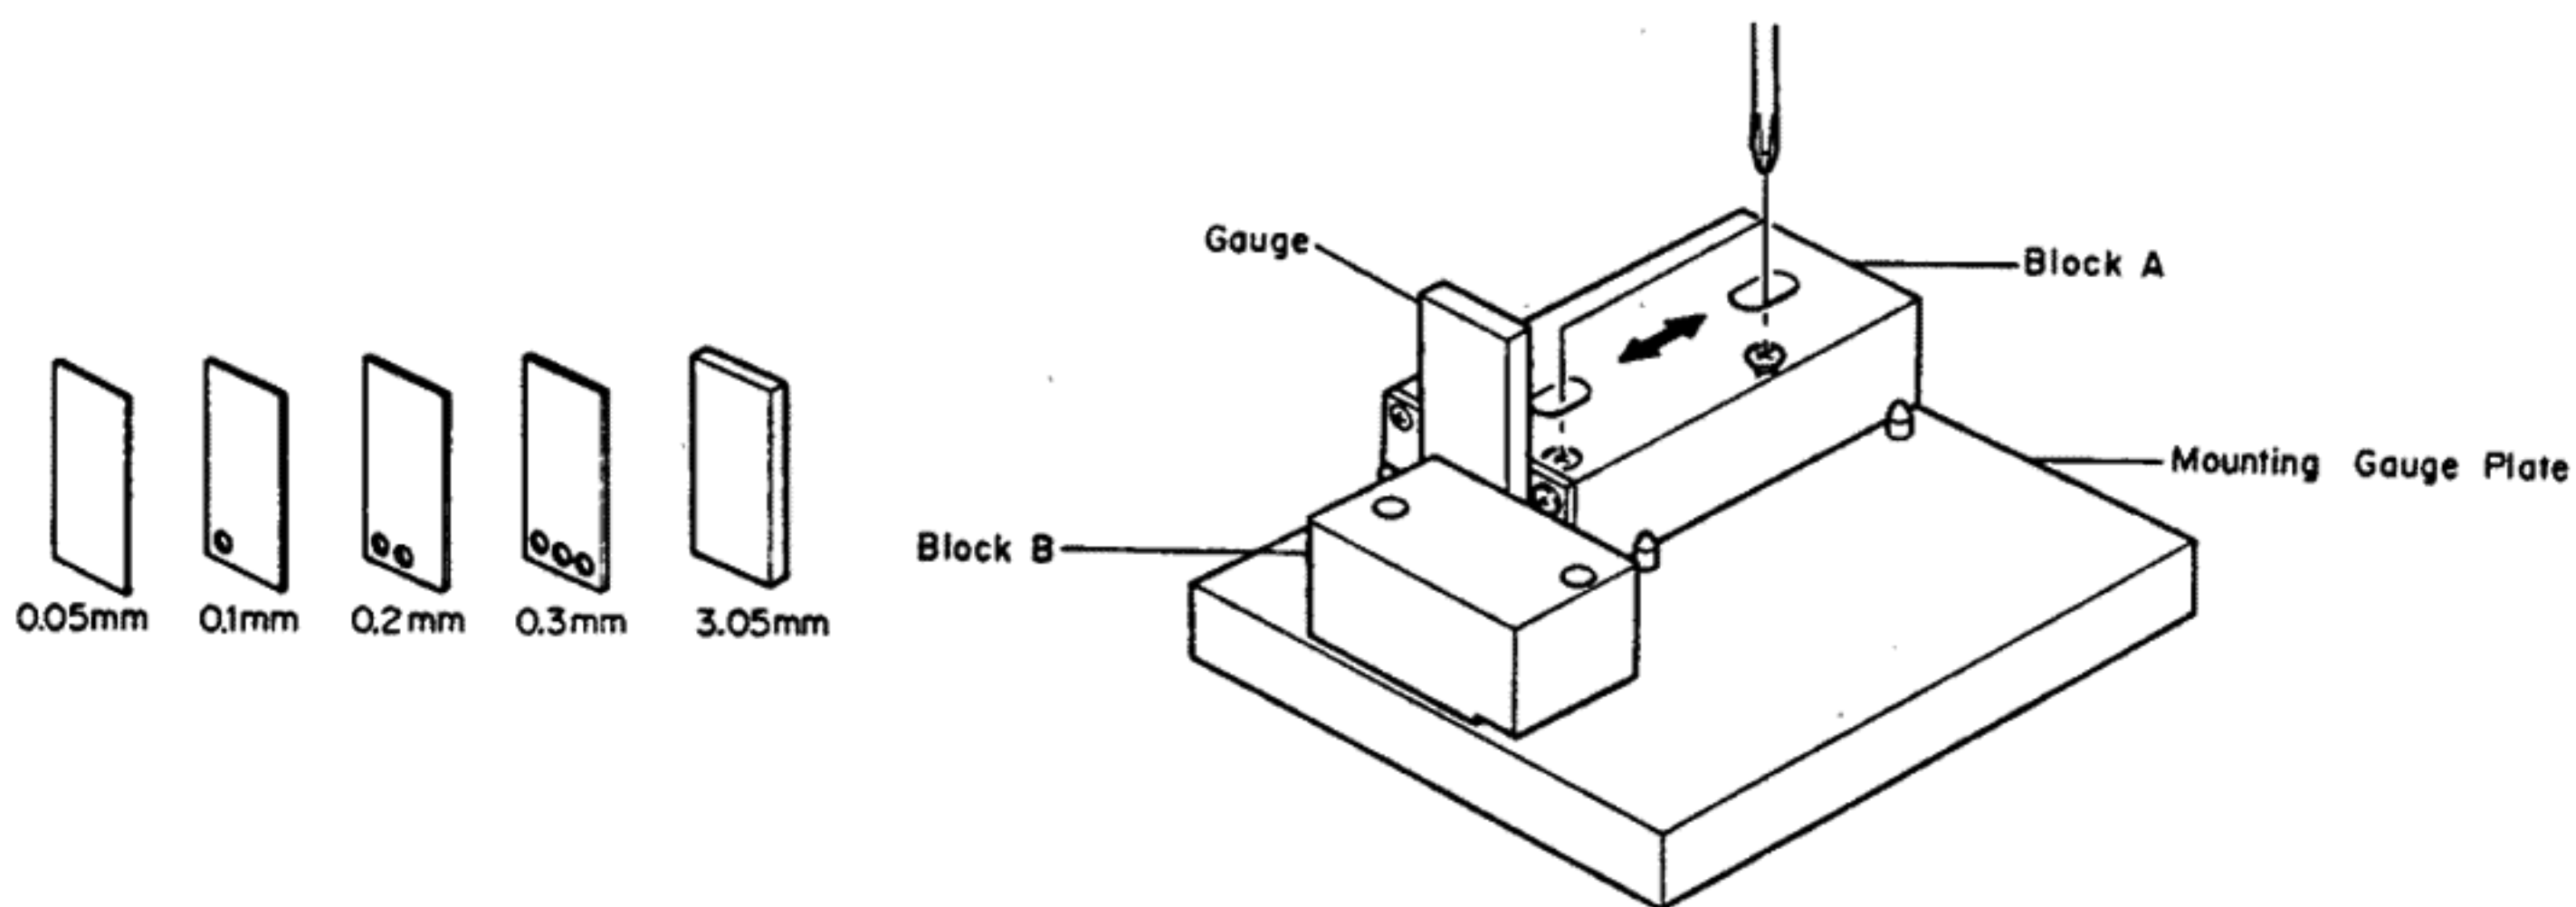
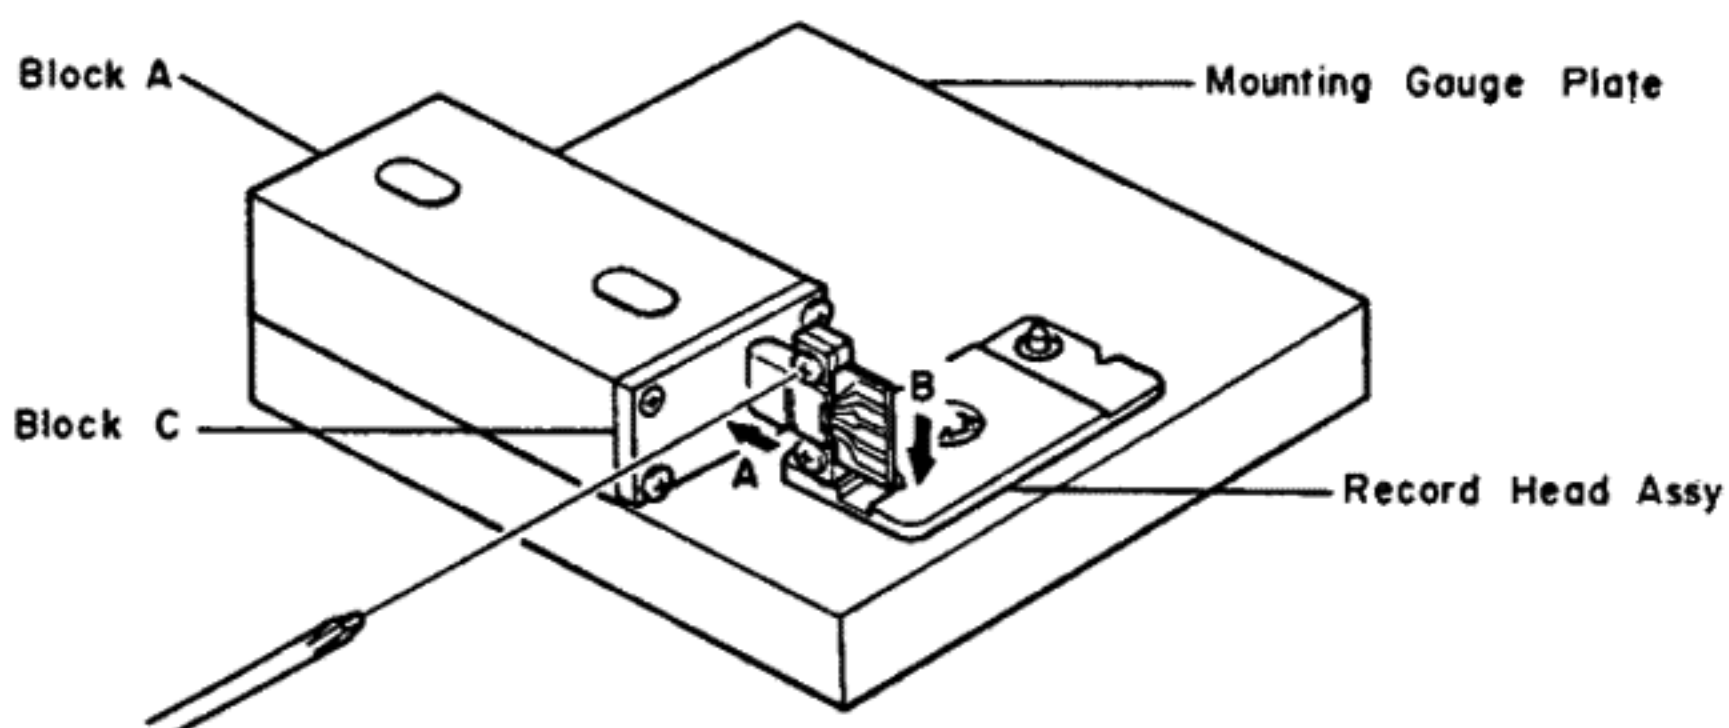

Fig. 5.15
Fig. 5.16
Refer to Figs. 5.15 and 5.16.
- (1) Check the accuracy of the record head stroke.
- (2) Remove Head Mount Base Ass'y referring to item 3.28.
- (3) Remove the record head assembly.
- (4) Adjustment of Record Head Mounting Gauge M-9048 (DA09048A)
- (c) As shown in the Fig. 5.15, hold the Gauges (3.05 mm and 0.1 mm thickness) between the Block A and Block B, fix the Block A with screws, pushing the Block A to the 2 guide pins.
- (5) Remove the Block B from the Mounting Gauge Plate.
- (6) As shown in the Fig. 5.16, mount the R-54 record head assembly onto the Mounting Gauge Plate, then check the location of the R-54 record head surface. (If record head contacts to the Block C, loosen 2 pcs. of screws that assembled record head and R-54 record head assembly, then place the R-54 record head assembly onto the Plate.)
- (7) Remove the R-54 record head assembly from the Mounting Gauge Plate.
- (8) Readjustment of Record Head Mounting Gauge M-9048 (DA09048A)
- (c) As shown in the Fig. 5.15, hold the Gauges (3.05 mm and either one of 0.05, 0.15, 0.2, 0.25, 0.3 or 0.35 mm thickness) between the Block A and Block B, fix the Block A with screw, pushing the Block A to the 2 guide pins.
- (9) Remove the Block B from the Mounting Gauge Plate.
- (10) Mount the R-54 record head assembly onto the Mounting Gauge Plate.
- (11) As shown in the Fig. 5.16, loosen the R-54 record head with 2 pcs. of screws onto the record head plate. As the location of the Block A is secured by the item (8) - (c), push the record head to the directions A and B, then tighten 2 pcs. of screws.
- (12) Check to insure freedom from gap between the Block C and record head surface, then tight the 2 pcs. of screws on the record head plate with lock tight paint.
- (13) Assemble the record head assembly to the head mount base assembly.
- (14) Assemble the head mount base assembly to the mechanism assembly.
- (15) Check the record head stroke.